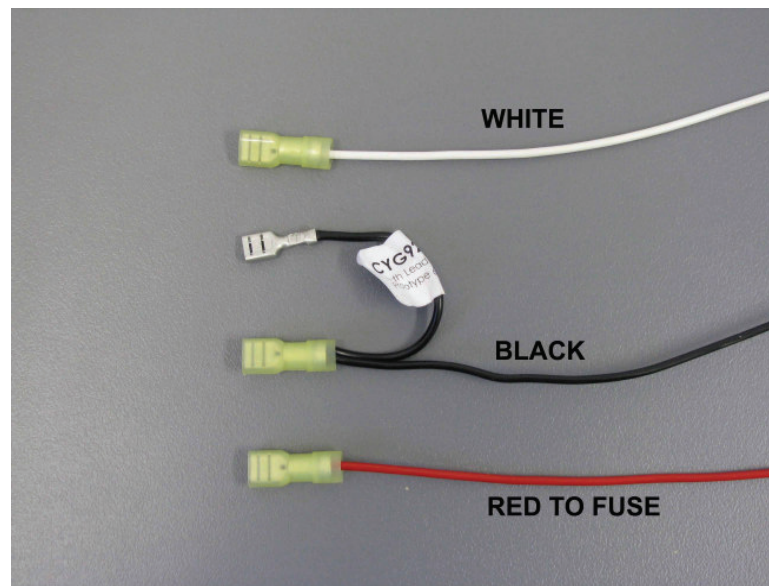

Figure 3 Crimping Wires
- h. Crimp a spade connector to the red and white wires in the vehicle harness (Figure 3).